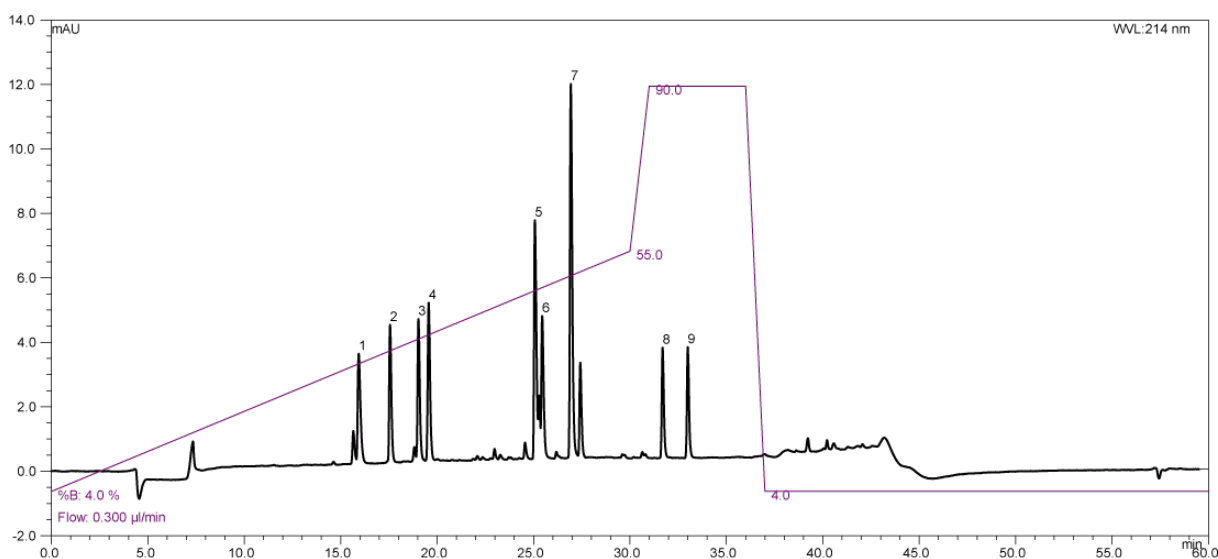

Figure 17: Typical chromatogram for Pre-concentration of 1 pmol Cyt C onto a nano column
**i** **Tip:** The example chromatogram provided (Figure 17) has been obtained under optimal conditions. When having difficulties to obtain a similar result, focus on the delay of the 'injection peak' and 'wash peak'; for example, check for any dwell (dead) volume.